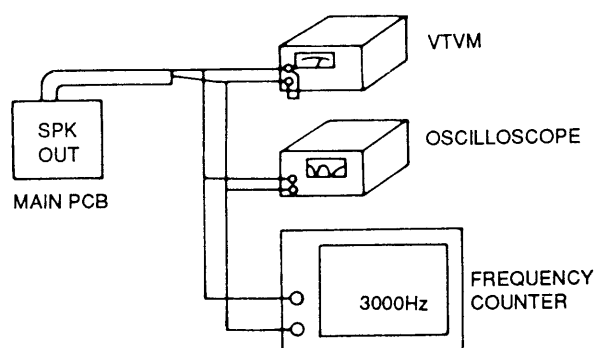
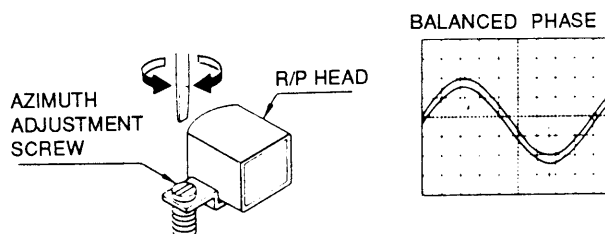
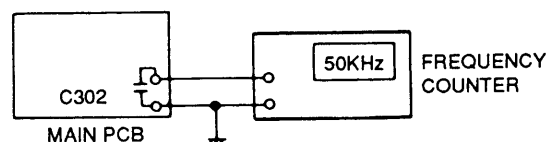

Fig. 7
Fig. 8
Fig. 9
(1) HEAD AZIMUTH ADJUSTMENT
- ① Connect the equipments as shown in the Fig. 7.
- ② Insert a test tape (8KHz : MTT-113CN) into deck.
- ③ Press PLAY (▶) and set VOLUME at approximately 50mW (4 Ω).
- ④ Adjust the azimuth adjustment screw for the maximum and balanced channel output (Fig. 8).
- ⑤ Secure the adjustment screw with glue after adjustment is complete.
(2) RECORDING BIAS ADJUSTMENT
- ① Connect C302 of Main PCB to the Frequency Counter. (Fig. 9)
- ② Press RECORD (●) and set TAPE SELECTOR to "NORMAL (■)".
- ③ Adjust T301 so that the Frequency Counter reads 50KHz.
(3) TAPE SPEED ADJUSTMENT
- ② Insert a test tape (3KHz : MTT-111) into deck.